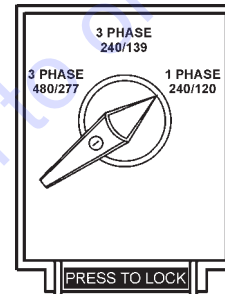

Figure 39. Voltage Selector Switch
4. Place the voltage selector switch in the desired voltage position (Figure 39).